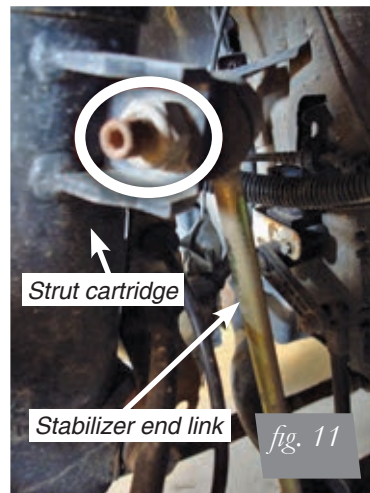

fig. 11
- Install the supplied stabilizer end link to the strut cartridge and stabilizer bar (figs. 11 & 12). Torque nuts to 65Nm (48lb-ft).